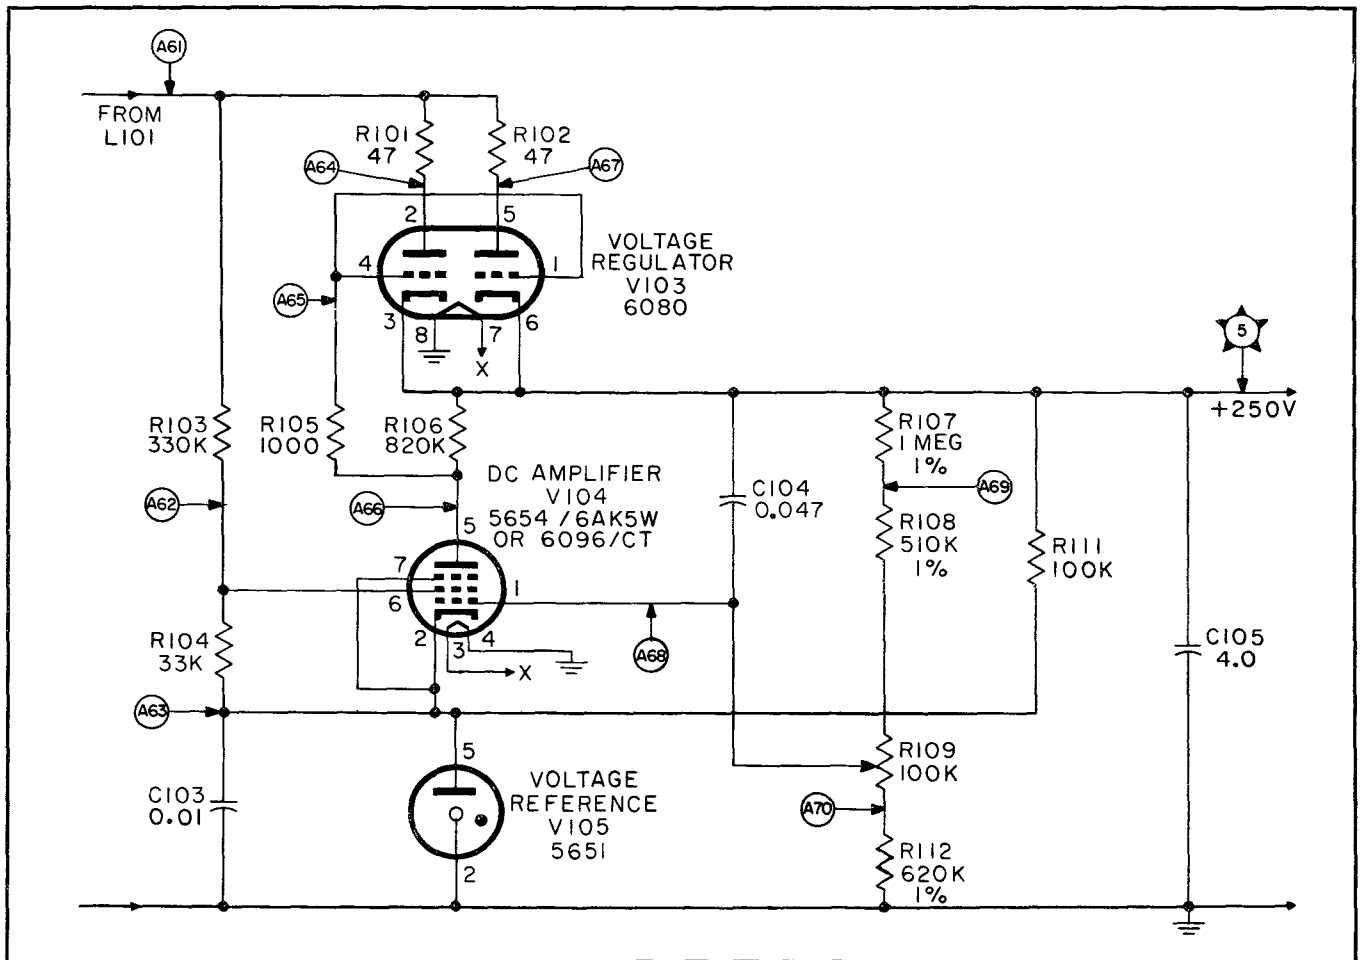

Figure 4-16. Power Supply Partial Schematic, Plate Voltage Regulator
- b. Plate Voltage Regulator (Figure 4-16.)
4-78. PLATE VOLTAGE REGULATOR. (Figure 4-16.)